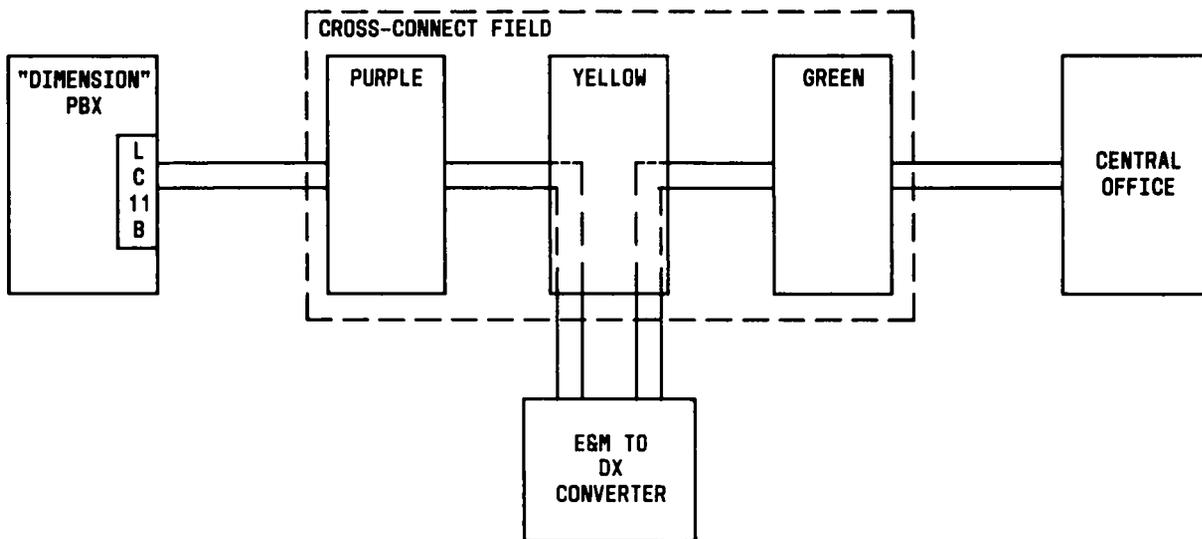

Fig. 56—Interconnections for E&M to DX Converter
6.95 Due to Part 68 of the FCC regulations, the LC11B cannot be used for DX signaling. If DX signaling is desired for use with an LC11B, an E&M to DX converter is required. The LC11B is connected to the converter via the cross-connect field (see Fig. 56).